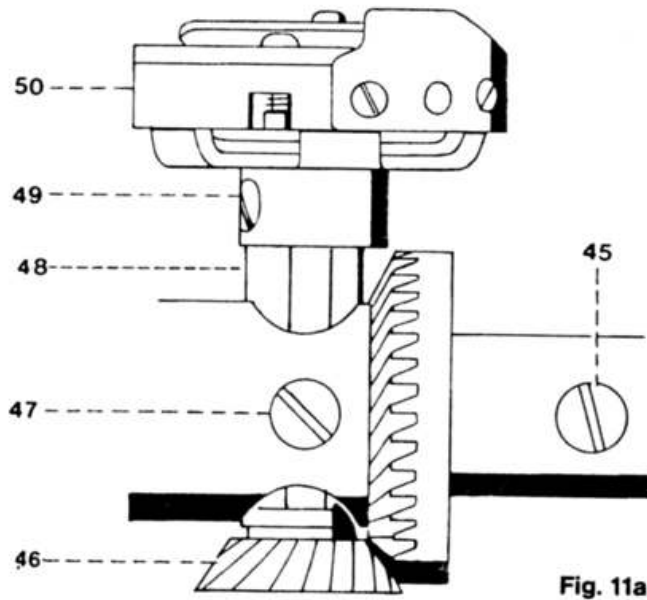

Fig. 11a
- If the hook shaft has axial play, loosen the two screws 49 (fig. 11a).